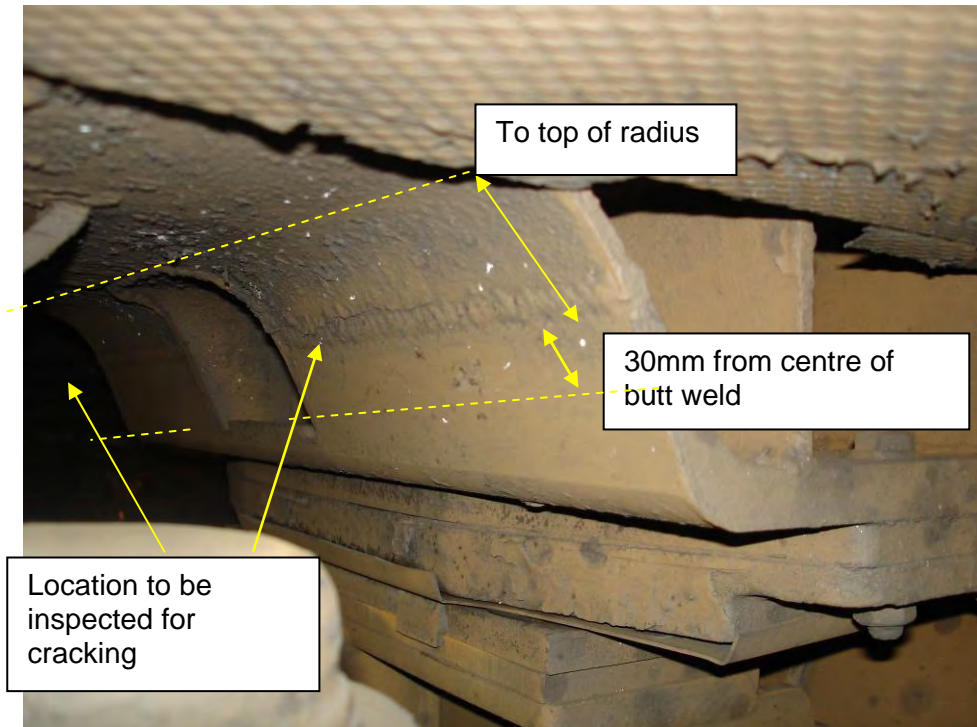
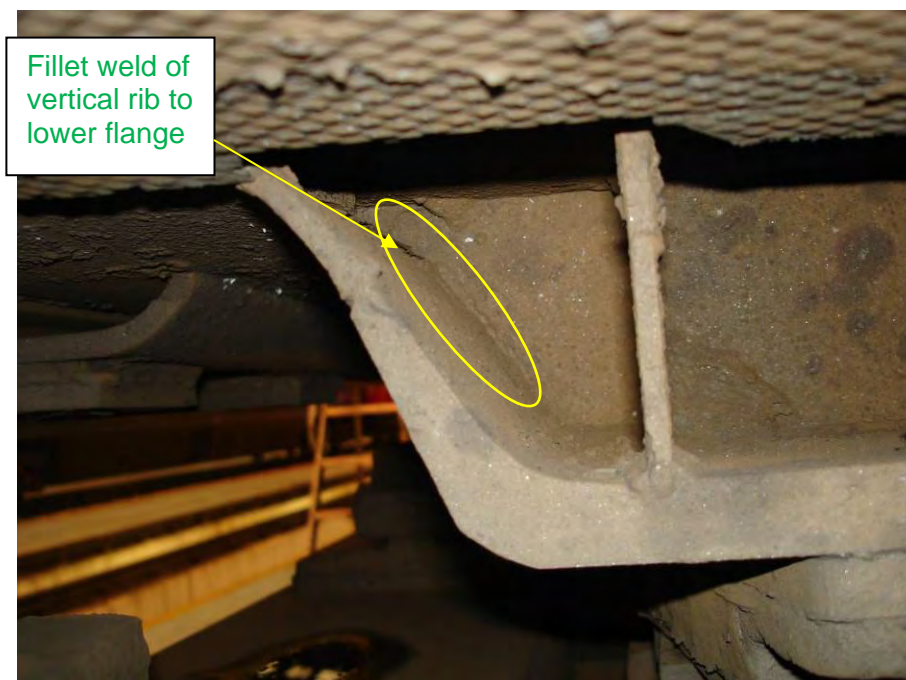

Figure 1: Weld Inspection Location at Bolster
Figure 2: Bolster Lower Flange Butt Weld
3. Clean and remove paint from around the longitudinal butt weld for each bolster in the location shown in Figure 1 (both sides where accessible), and around the fillet weld of vertical rib to lower flange shown in Figure 2.
5. Inspect locations shown in Figure 1 and 2 using a magnetic particle inspection procedure (see Reference Documents item 2).
6. Prepare and paint all areas which have been repaired, where old paint has flaked off, or have been otherwise unsatisfactorily cleaned, in accordance with Reference Documents item 1 after completion of all arising work.